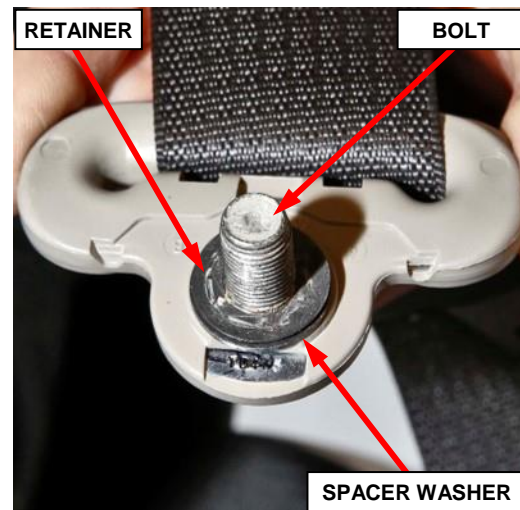

Figure 86 – Turning Loop Bolt
64. Remove and **DISCARD** the bolt retainer and the bolt from the seat belt turning loop, save the spacer washer for reuse (Figure 86).